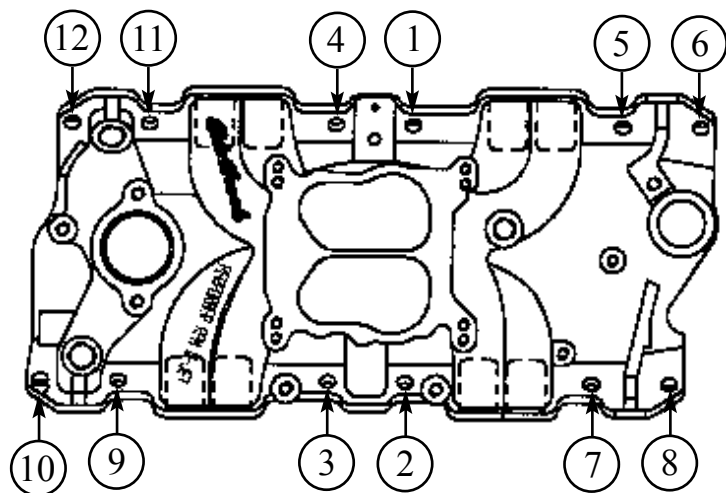

Figure 1—Intake Manifold Tightening Sequence
- **MANIFOLD TORQUE**—Torque all manifold bolts circled in Figure 1 to 25 ft/lbs. See Figure 1 for proper sequence.
2. Position stools on air cleaner at front, rear, each side and on center stud. See Figure 1.